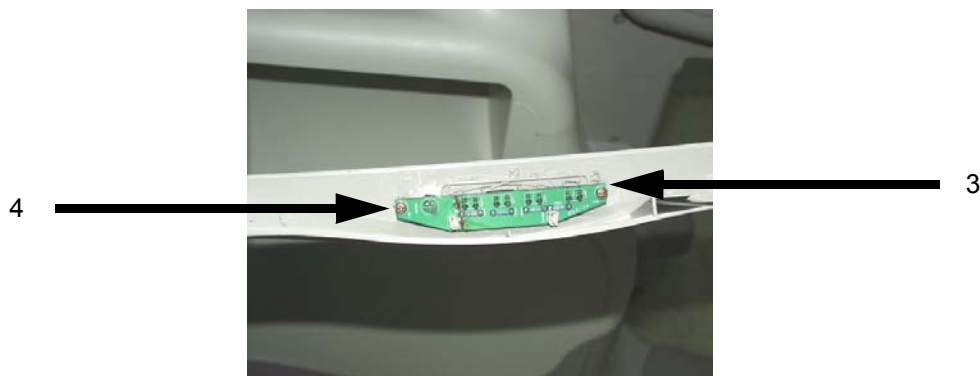

Figure 8-41 Unscrew 2 screws
- 3.) Unscrew two screws (3-4) from the Monitor Cover Front. Refer to Figure 8-41 on page 8-7 .